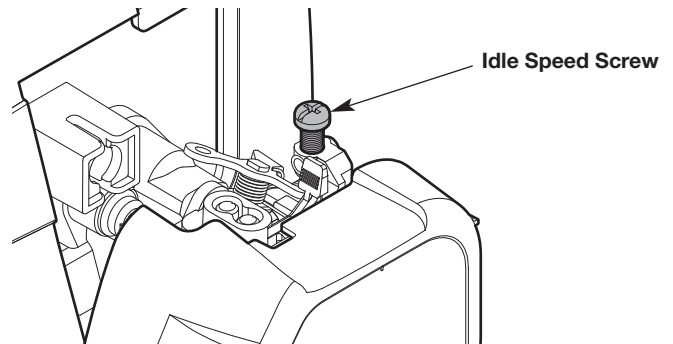

Fig. 28
- If the engine stops, increase the idle speed. Use a small Phillips screwdriver to turn the idle speed screw clockwise, 1/8 of a turn at a time, until the engine idles smoothly (Fig. 28).
- If the cutting head spins when the engine idles, reduce the idle speed. Turn the idle speed screw counterclockwise, 1/8 of a turn at a time, until the cutting head stops moving (Fig. 28).